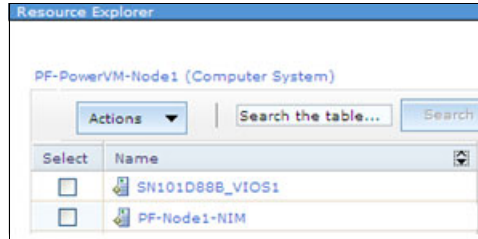
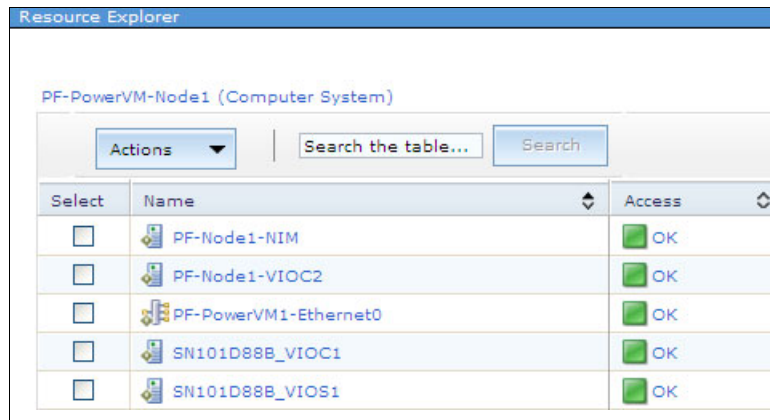

Figure 10-27 Created two partitions
Figure 10-34 Four PowerVM virtual servers in the Resource Explorer menu
There are two partitions, as shown in Figure 10-27. One is VIOS and the other one is for the NIM server to deploy AIX OS. The minimum requirement is set to deploy the PowerVM virtual machine by using VMControl.
- You can check the Resource Explorer window where three more virtual resources are added to the physical server, as shown in Figure 10-34 compared to Figure 10-27 on page 416.